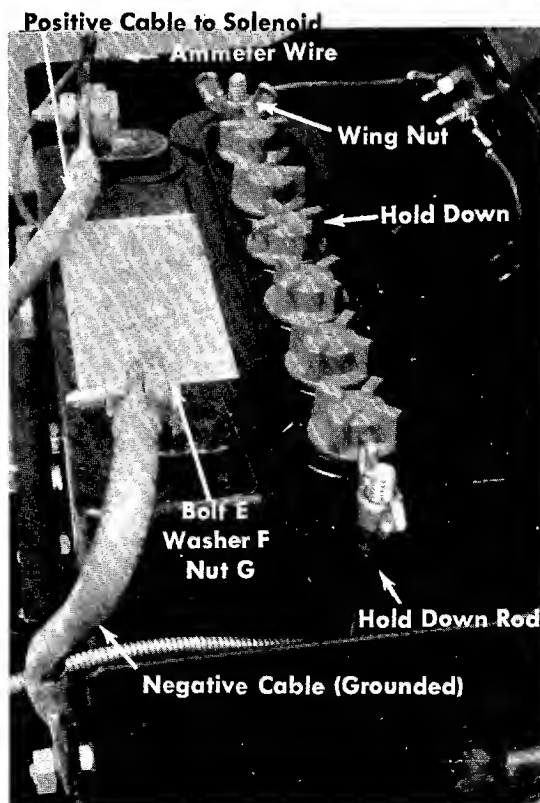

FIGURE 4. INSTALLING THE BATTERY
- B. Place the battery with the terminals to the **FRONT** in the battery case. See figure 4.